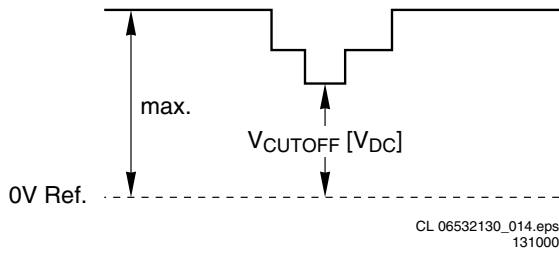

Figure 8-2 Vcutoff
19. Measure the 'cut off pulse' during the first full line after the frame blanking (see Fig. 8-2). You will see two pulses, one being the 'cut off pulse' and the other being the 'white drive pulse'. Choose the one with the lowest value; this is the 'cut off pulse'.